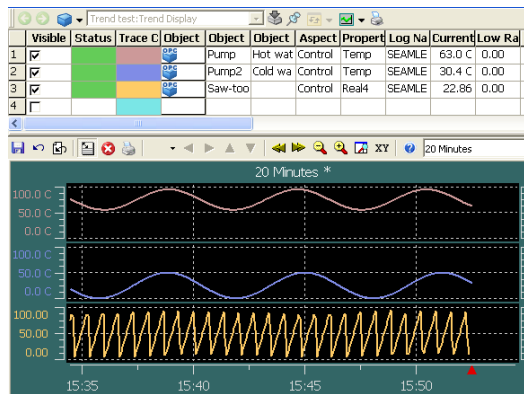

Figure 101. Trend Display Top View
- The same as above but with the Trend Table on top, this is the Top View (Figure 101).